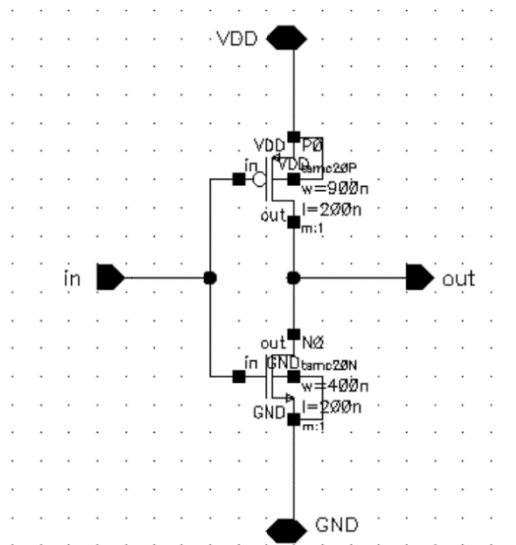

Figure 3. Inverter schematic
- When completed, please check your schematic with a sample circuit given in Figure 3.